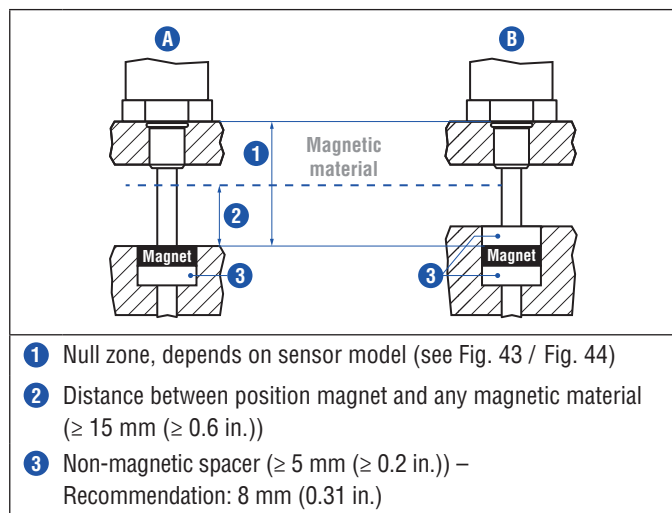

Fig. 41: Installation with magnetic material
- Minimum distance between position magnet and any magnetic material has to be 15 mm (0.6 in.) (Fig. 41).
- If no other option exists and magnetic material is used, observe the specified dimensions (Fig. 41).
When using magnetic material the dimensions of Fig. 41 must be observed.